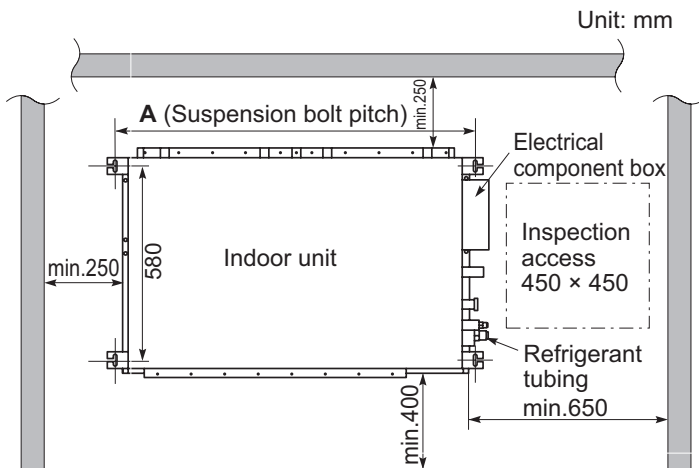

Fig. 2-75
- The minimum space for installation and service is shown in Fig. 2-75 and Table 2-13.
- (1) When placing the unit inside the ceiling, determine the pitch of the suspension bolts referring to the dimensional data as shown in Fig. 2-75 and Table 2-14. Tubing must be laid and connected inside the ceiling when suspending the unit. If the ceiling is already constructed, lay the tubing into position for connection to the unit before placing the unit inside the ceiling.